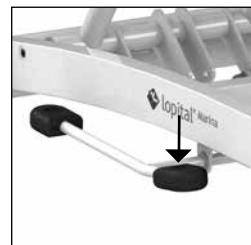

Figure 8 Moving downwards.
- The stretcher is lowered by depressing the short part of the foot pedal (*See figure 8*).